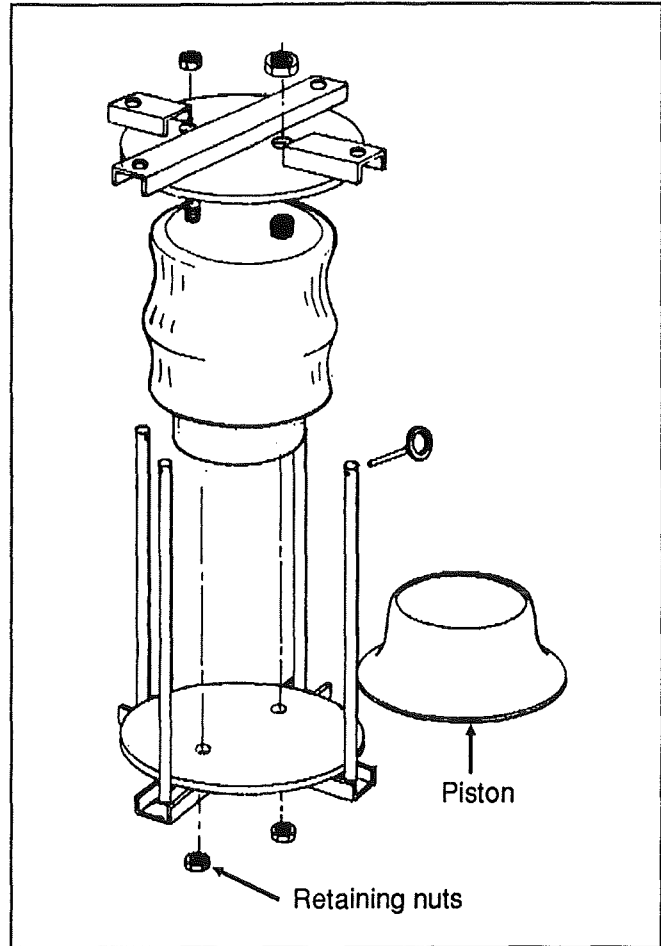

FIG. 7
1. Install the air spring as shown, and slowly add air pressure through the fitting in the upper retainer plate. This will disassemble the lower retainer from the bellows (see figure 7 and 8).